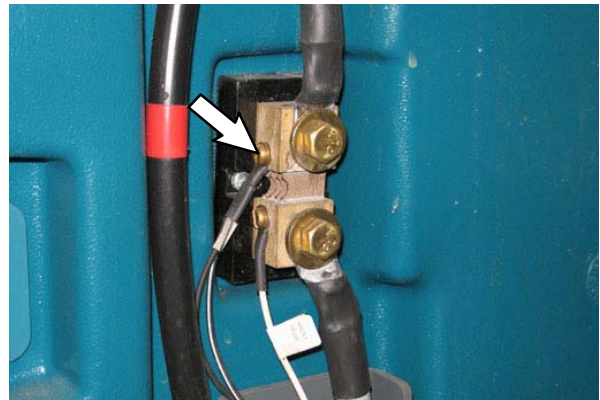

FIG. 15
17. Route telemetry harness (12) 13/BLK-WHT and 79/WHT leads along the battery cable (13) and up to the shunt (9).
18. Connect the telemetry harness (12) 13/BLK-WHT wire to the shunt (9) top terminal . (Fig. 15 / Fig. 17)